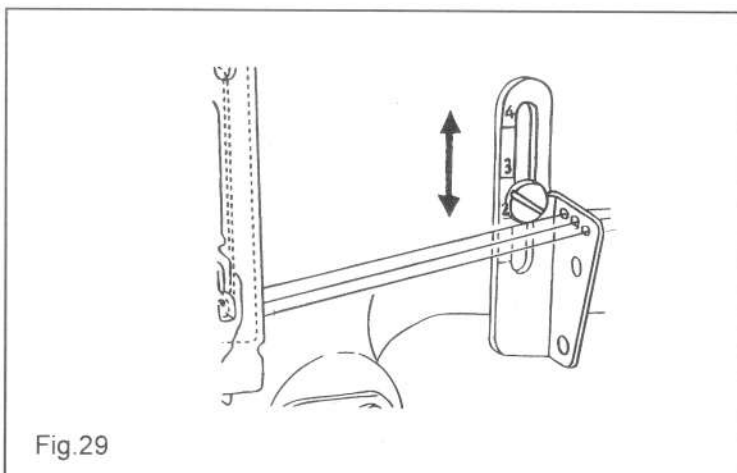

Fig.29
25. Frame thread eyelet: (Fig 29)
The following locations are generally regarded as criteria (refer to Fig29)